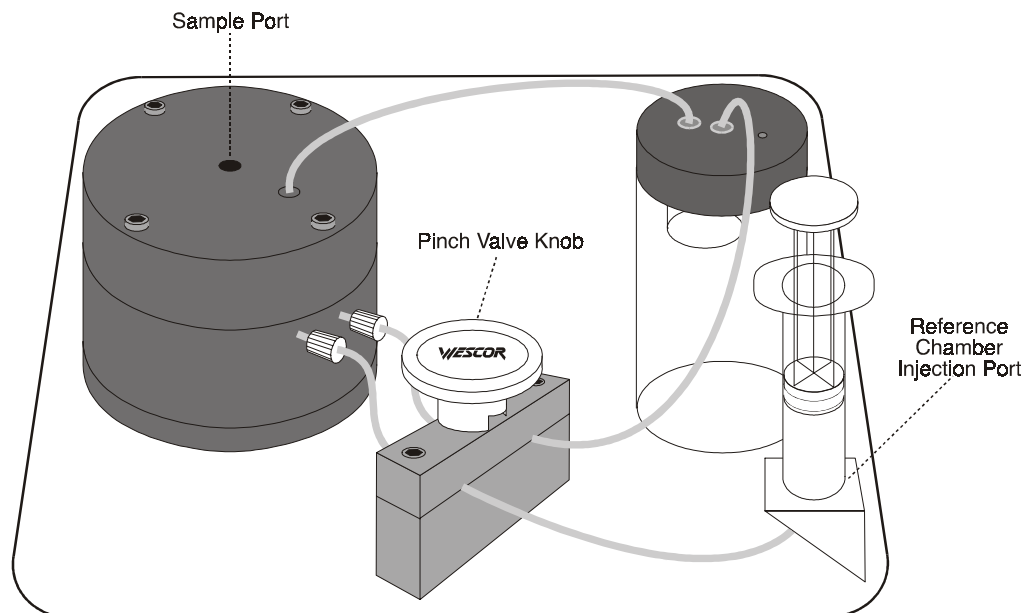

Figure 2-9 Using a 10 mL syringe to inject saline solution into the reference chamber
2. Insert the tip of a 10 mL plastic syringe filled with normal saline solution into the reference chamber injection port. Use a slight rotation to ensure a tight connection (Figure 2-9).